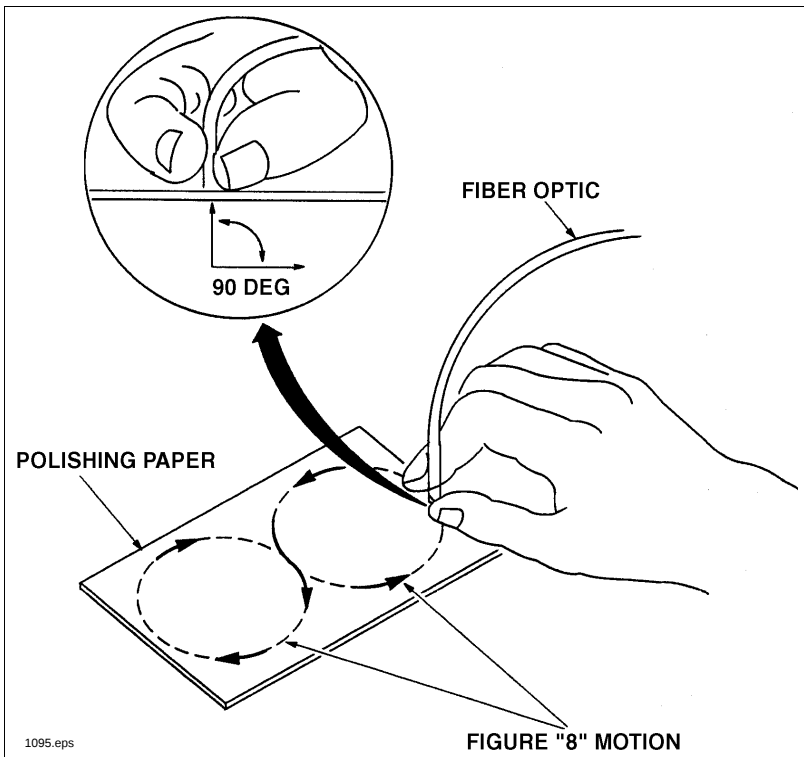

Figure 3. Pattern and orientation of the optical fiber during polishing.
2. Wet the 600 grit polishing paper with water or light oil and place it on a flat, firm surface. Hold the optical fiber upright, at right angles to the paper, and polish the fiber tip with a gentle "figure-8" motion as shown in Figure 3. You may get the best results by supporting the upright fiber against some flat object such as a portion of a printed wiring board.